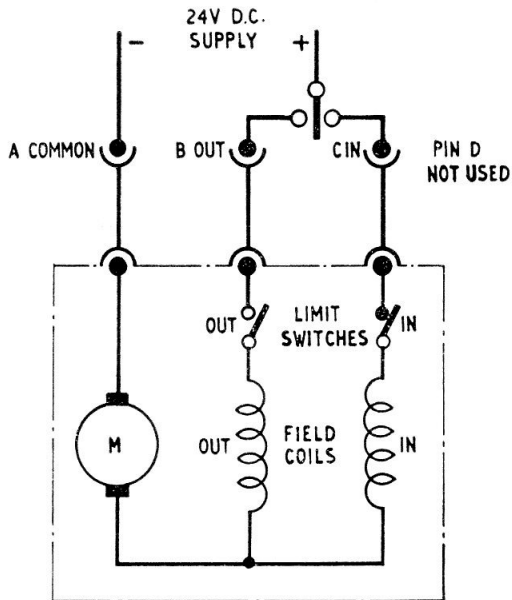

Fig. 2. Circuit Diagram.
No brake coil is fitted in this actuator (fig. 2).
8. The internal wiring (fig. 2) of the actuator is brought out to a 4-pole Breeze plug, which is mounted on an elbow of the gear casing. Pin D of the 4-pole Breeze plug is not used.